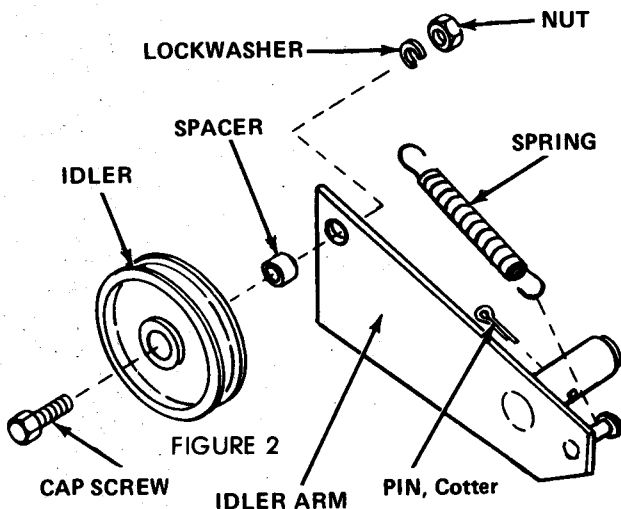

FIGURE 2
2. Remove the idler spring. Pull the cotter pin (67006) and remove the idler assembly. This assembly consists of the parts shown on Figure 2. None of these parts are re-used.